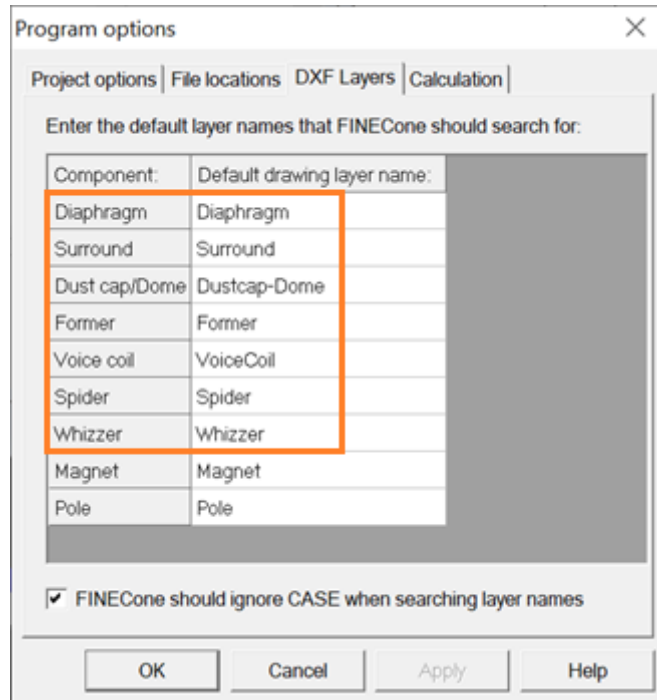
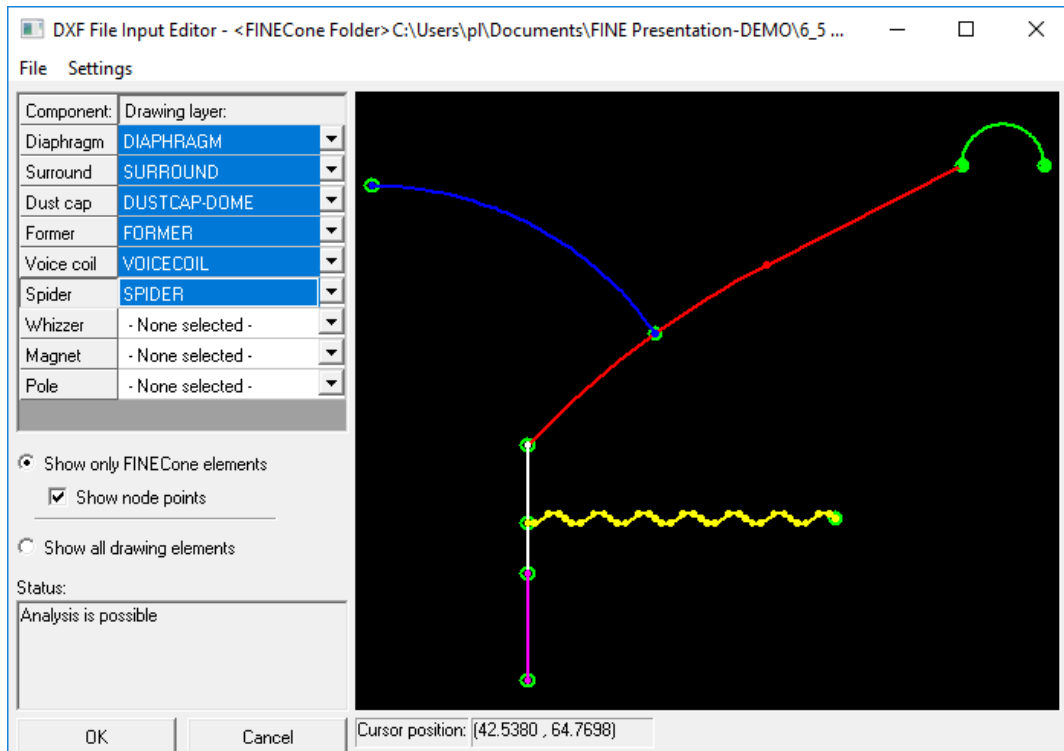

Figure 6 - DXF: Default Layer names (1-7 Main Acoustic components in frame)
Figure 7 – Example FINECone Geometry
- c. You can only define up to 7 components, see Figure 6
The same applies for the surround flange glued to the cone which is not included in the simple DXF drawing. The cone is thus drawn as one line (red) in the Diaphragm layer + two arcs. The full geometry is shown in Figure 7, where the split points are shown as small dots.
Pressing [Geometrical Properties] Figure 7 shows the input geometry from the chosen DXF file. Each component is shown with a different colour and here are all components imported directly. (Remember all layers will import when using the default layer names, see Figure 6)
The default layer names are defined in Tools/Program options/DXF layers, Figure 6